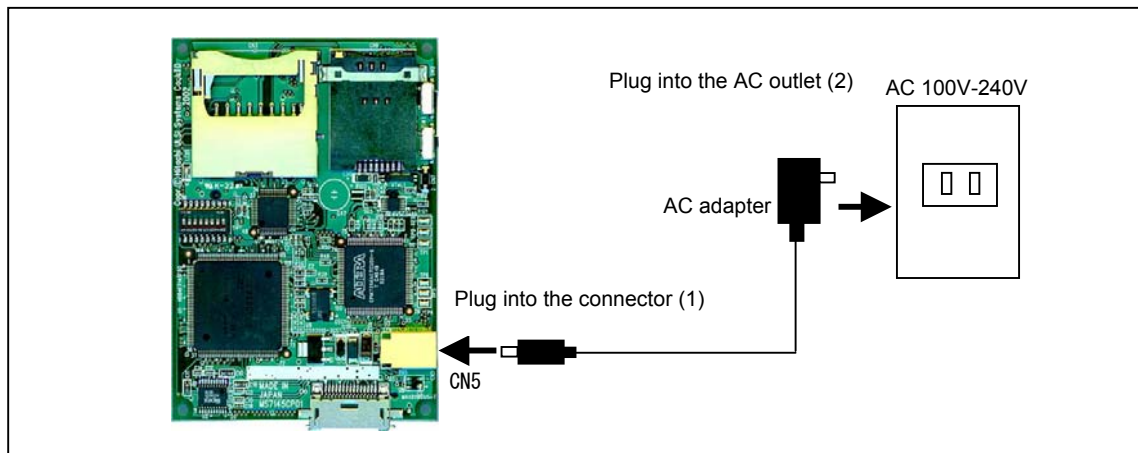

Figure 2.3 Connecting the AC Adapter
(2) Connecting
Figure 2.3 shows how to connect the AC adapter to the μ T-Engine board. To connect the AC adapter, insert the adapter plug into the AC adapter connector on the μ T-Engine (1), and then insert the other end of the AC adapter into an AC outlet (2), as shown in Figure 2.3.